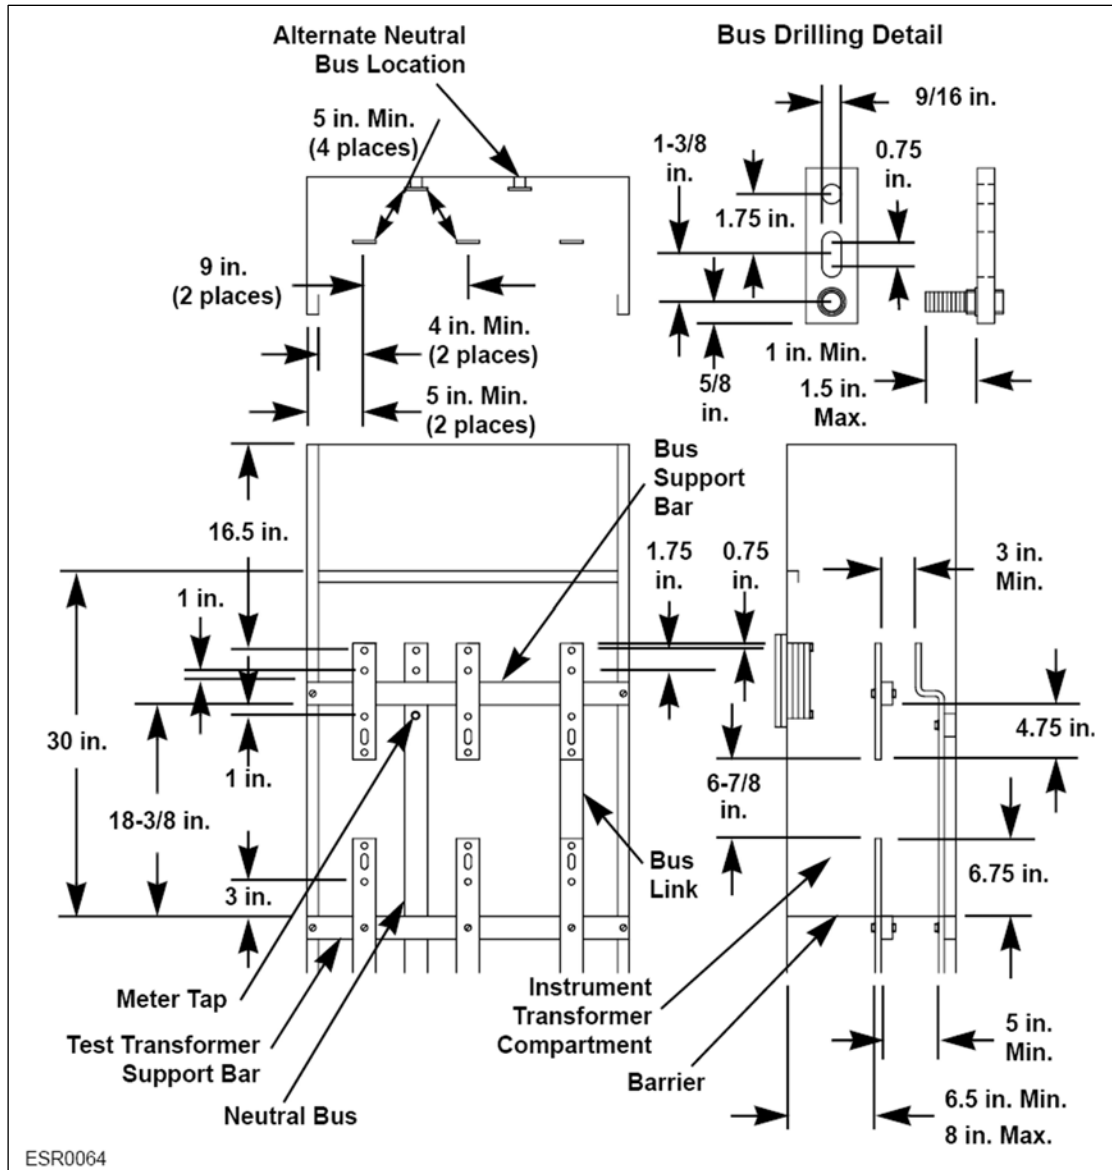

Figure 96: Switchboard Current Transformer Compartment, 0 to 1000 A, 0 to 600 V, Three-Phase, 4-Wire Service (EUSERC 320)
Follow these additional requirements when installing a CT compartment in a switchboard enclosure, 0 to 1000 A, 0 to 600 V, three-phase, 4-wire service (EUSERC 320), such as that shown in **Figure 96**.
- Bus arrangements and supports must be provided as shown in **Figure 96**. The neutral bus may be located at either side.